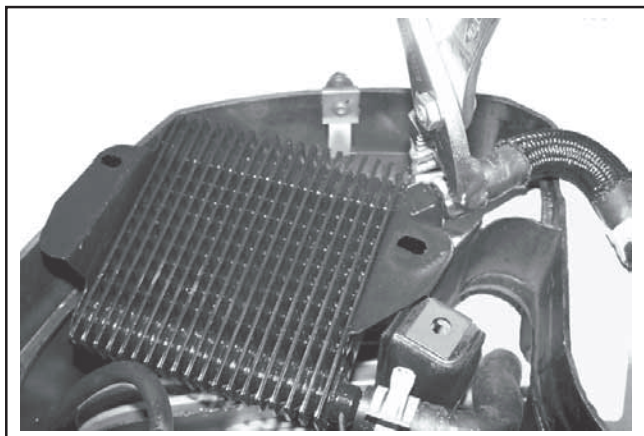

Figure 8-20. Disconnecting Hoses From Oil Cooler.
2. Loosen the clamps and disconnect each of the hoses from the oil cooler. See Figure 8-20.